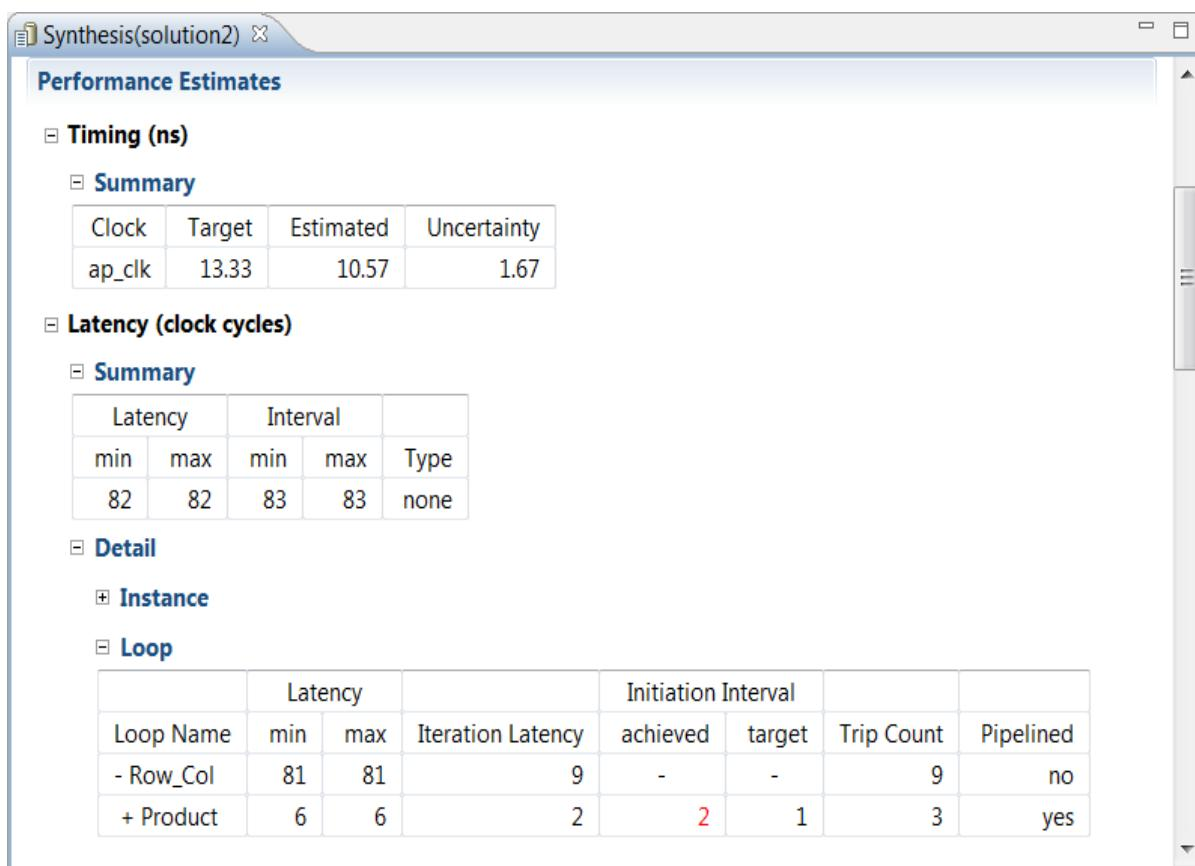

Figure 7-7: Matrixmul Initial Pipeline Report
The synthesis report (Figure 7-7) shows that although the Product loop is pipelined with an interval of 2, the interval of top-level loop is not pipelined.
More importantly, it is worth addressing why only an initiation interval (II) of 2 was possible for the Product loop (as shown in Figure 7-7).